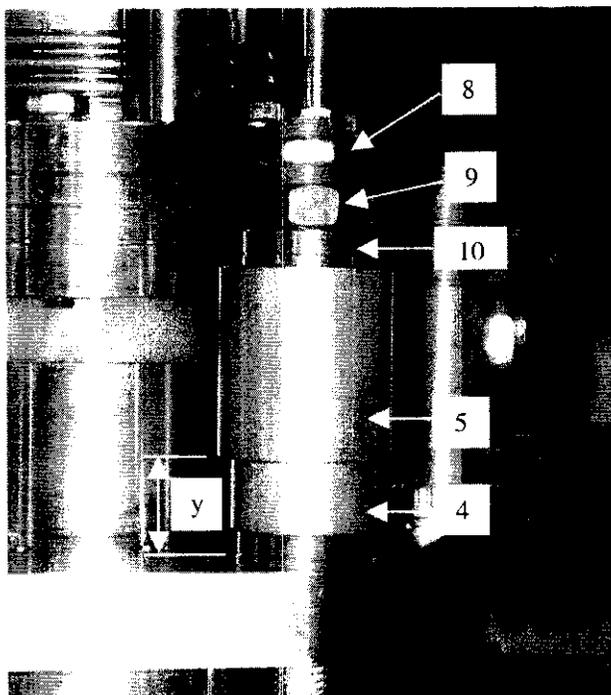
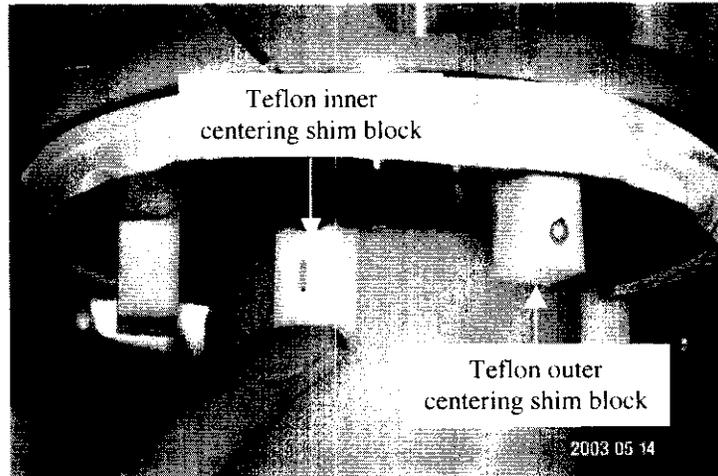

Figure 1.27a An installed Belleville Washer Assembly.
Figure 1.28.1.2 The installed Teflon centering shim blocks.
- 1.27** Install Belleville Washer Assemblies on each tensioning stud per Figures 1.27a and 1.27b. A spherical washer must be placed below the Belleville washer holder on each stud. In the figures: Items 11 (10 each) are Belleville Washers, arranged as shown; Items 6 (2 each) are flat washers; Items 4 and 5 are the Belleville Washer Holder; Item 10 are Spherical Washers for above and below the washer holder; Item 9 is a loading nut; and Item 8 is a jam nut.
- 1.28.1.2 Center the lower end of the lead in the chimney using the centering shim blocks. The Teflon inner centering shim blocks are labeled with an 'I' and go between the power lead and the lower insulator. The Teflon outer centering shim blocks are labeled with an 'O' and go between the lower insulator and the chimney. The installed Teflon centering shim blocks are shown in Figure 1.28.1.2.
- 1.28.1.3 Tighten the 6 loading nuts finger-tight. With adjustable parallels, measure and record the gap "y" indicated in Figure 1.27a between Item 5 and the current lead top flange at the 6 locations specified in Figure 1.28.1.5. Units are mm.
1.28.1.6 Record the final measured gaps 'y' in Figure 1.27a. Units are mm.
1.28.2.3 Tighten the 6 loading nuts finger-tight. With adjustable parallels, measure and record the gap "y" indicated in Figure 1.27a between Item 5 and the current lead top flange at the 6 locations specified in Figure 1.28.1.5. Units are mm.
1.28.2.6 Record the final measured gaps 'y' in Figure 1.27a. Units are mm.